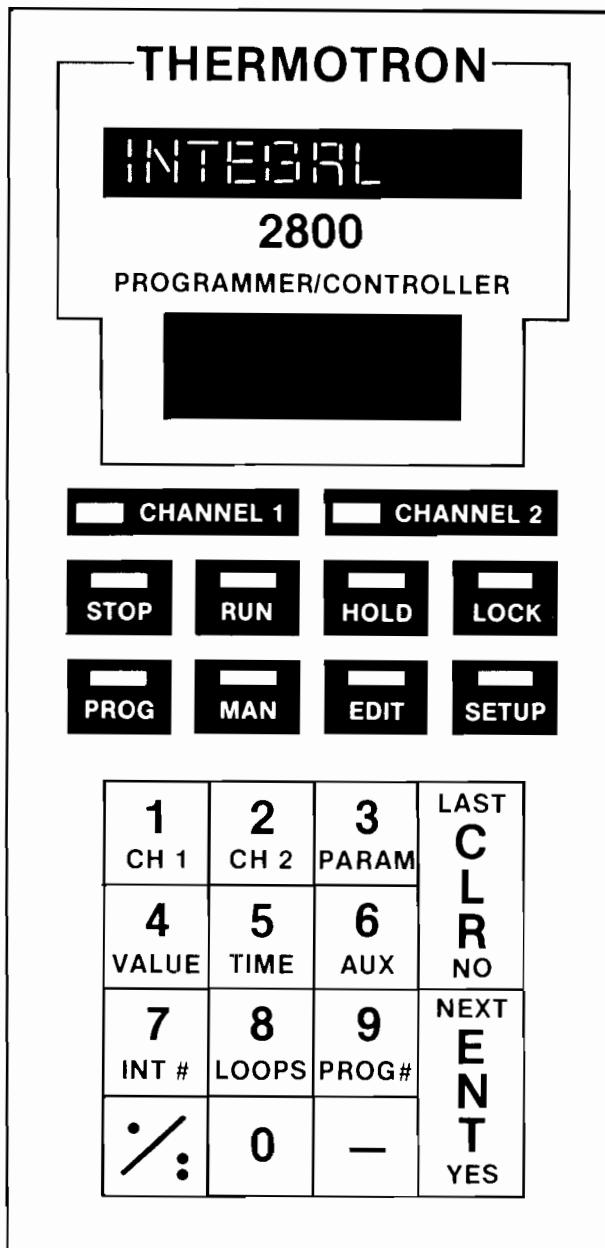

FIGURE 10
1. Press the **PARAM (3)** key.
2. To scroll through the display, press the **ENT (NEXT)** key until the display shows **INTEGRL**. See Figure 10.
3. Press the **PARAM (3)** key.
4. To scroll through the display, press the **ENT** (NEXT) key until the display shows **INTEGRL**. See Figure 10 on Page 20.